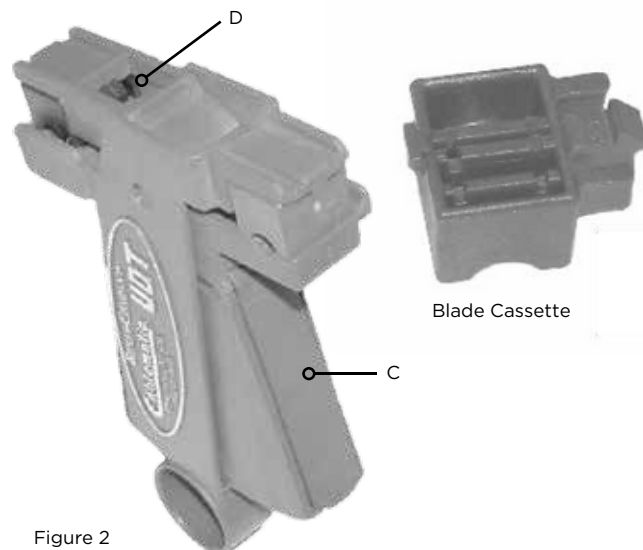

Figure 2
- In time, the blade that cuts through the braid and shielding will become dull and result in an “unacceptable” trimmed cable end. This will be apparent when you need to trim any long strands of braid. The UDT cassettes are easily replaced. Blade cassettes are stored in the moveable handle compartment. They can be accessed by opening the “compartment door” (Figure 2-C) and removing the appropriate blade cassette. The dull blade cassette can now be removed from the tool by pushing the tab (D) with your finger allowing the blade cassette to slide out. Insert the replacement blade cassette into the tool body and allow it to “snap” into position. This would be a good time to order replacement blade cassettes for the tool storage compartment. Care must be exercised in handling due to the sharpness of the blades in the cassettes.